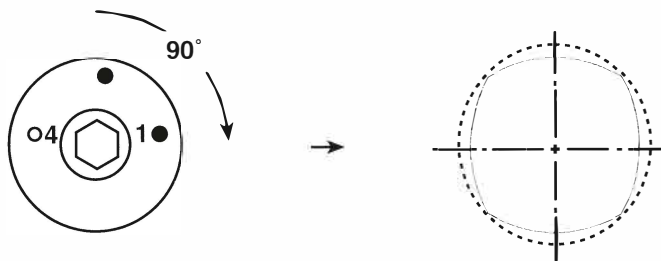

Fig. 5.
4. Stop the lathe and unscrew the hexagonal socket from the workpiece. Rotate it through 90° , to align with the 'new' pair of holes, return the ball drive to side '1', then secure once gain with your woodscrews. (Fig. 5.) Turn the third side.